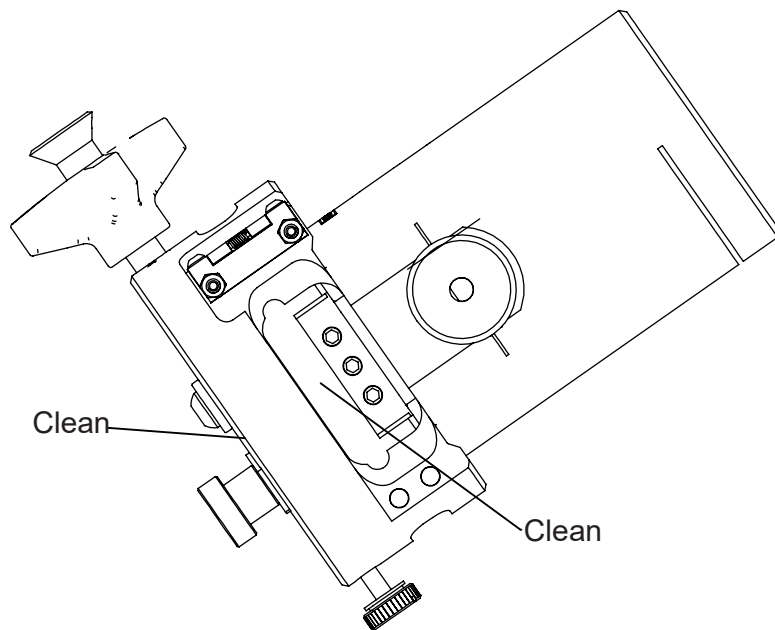

Figure 3: Sites to Clean
- Clean and coat components with a light film of oil prior to use (refer to Fig. 3).